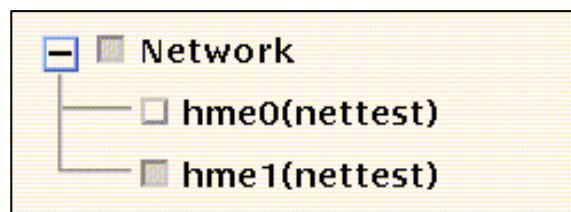

Fig. 4.4-3 Setting Network (In the case of UltraSPARC-III-Engine)
- (1) When DICOM communication is possible with DICOM I/F provided, Network check can be made. Click [+] button of Network, and the following is displayed.
- (a) In the case of UltraSPARC-III-Engine, check hme1 only as shown in Fig. 4.4-3.